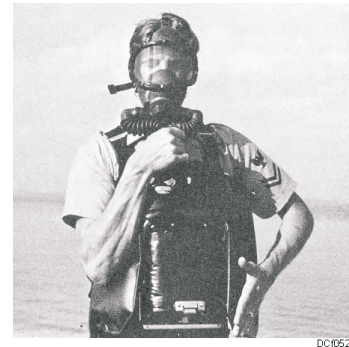

Figure 5-22. Testing the OBA.
Step 4. Now, test the tube connectors, canister, and breathing bags for tightness. While the candle is filling the breathing bag, depress the breathing bag at the pull tab with your left hand. Grasp and seal off both breathing tubes with your right hand, while pressing against the right side of the breathing bag with your right elbow (fig. 5-22). The bag must be compressed at the pull tab so that the relief valve does not vent during this test. The bag must remain inflated; otherwise, there may be a leak in the OBA, which you must correct before use.